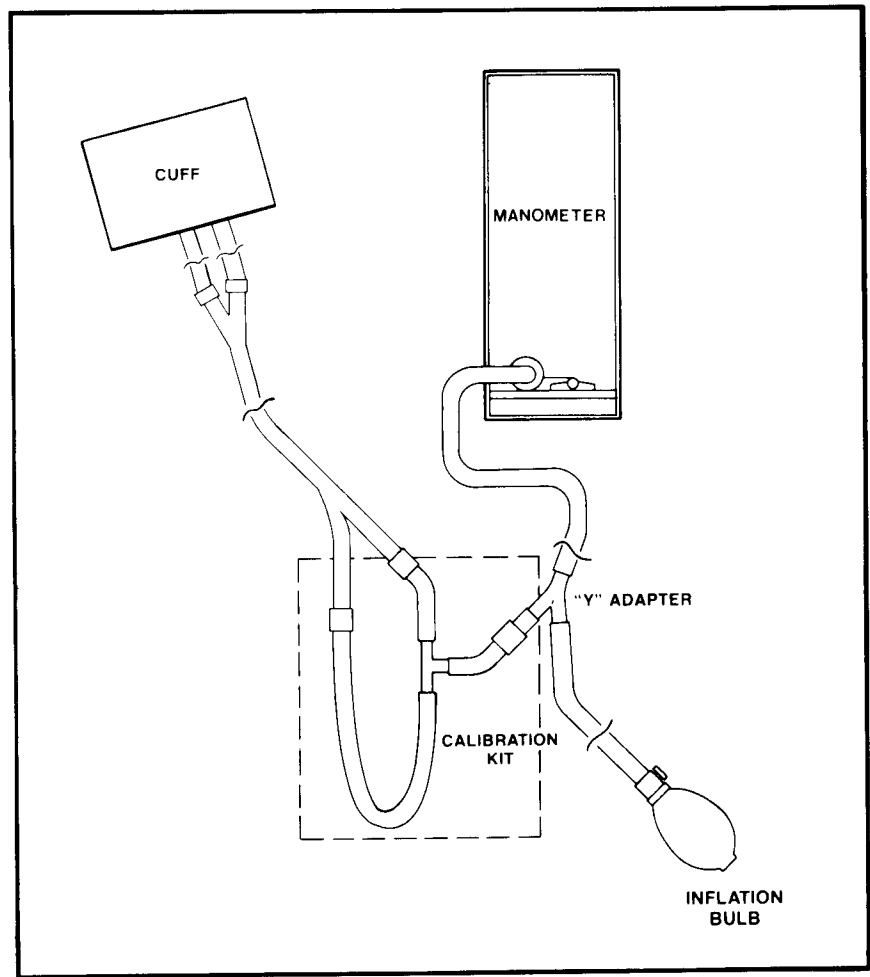

Figure 6-10. Cuff and Hose Leak Check Setup
2. Connect a mercury manometer (Baumanometer 300, or equivalent) with the parts supplied in the blood pressure calibration kit as shown in Figure 6-10.